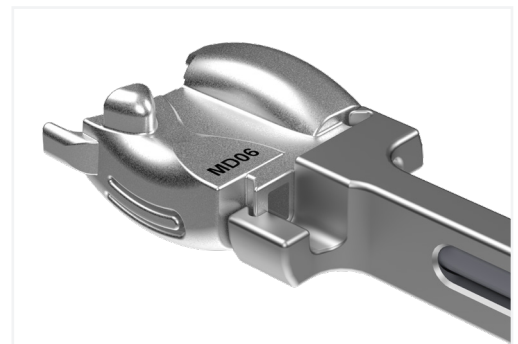

Figure 6
- ▲ The CSTS-SA anchors are provided sterile packaged inside single-use cartridges. Select the anchor cartridge that corresponds to the appropriate sizer. Attach the cartridge to the anchor inserter by aligning the tab on the cartridge with the slot on the distal end of the Anchor Inserter (Fig. 6).